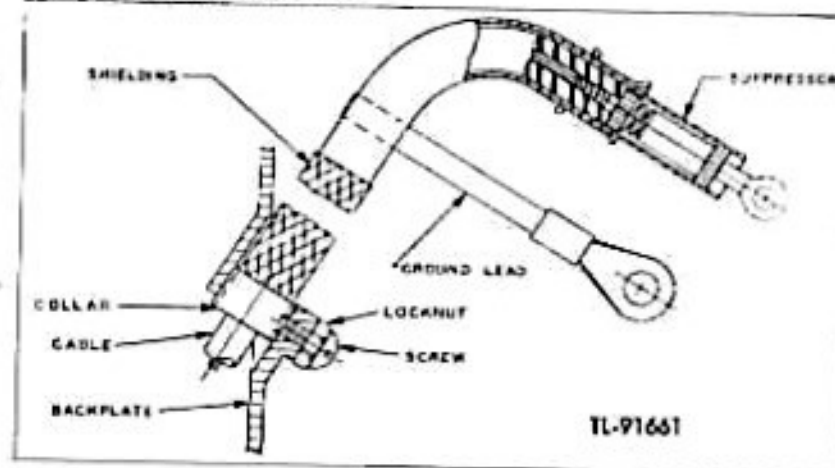

Fig. 12—Magneto Cable Positioned in Back Plate
(10) Insert the shielding through the opening in the magneto back plate so that the collar is about flush with the boss.
(11) Tighten the small screw and lock nut (fig. 12).
(12) Insert the wire end of the cable through the bracket on the coil. Bend the strands around so the cable cannot work out.
(13) Bring the cable and shield assembly forward between the cylinder and the magneto back plate. Screw on the suppressor.
(14) Install the assembly on the spark plug and replace the cap and ground leads.
(15) Reassemble the flywheel, starter pulley and flywheel housing.